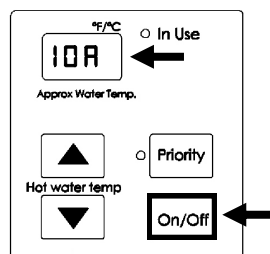

Figure 4B.
5. After setting “i0” is selected, press the “On/Off” button to change the selection. Select “i0R” for Natural Gas (NG) or “i0b” for Propane (LP) (Figures 4B and 4C).